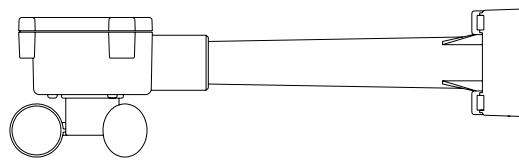

Figure 3
3. One TX15U wind speed sensor (Figure 3).